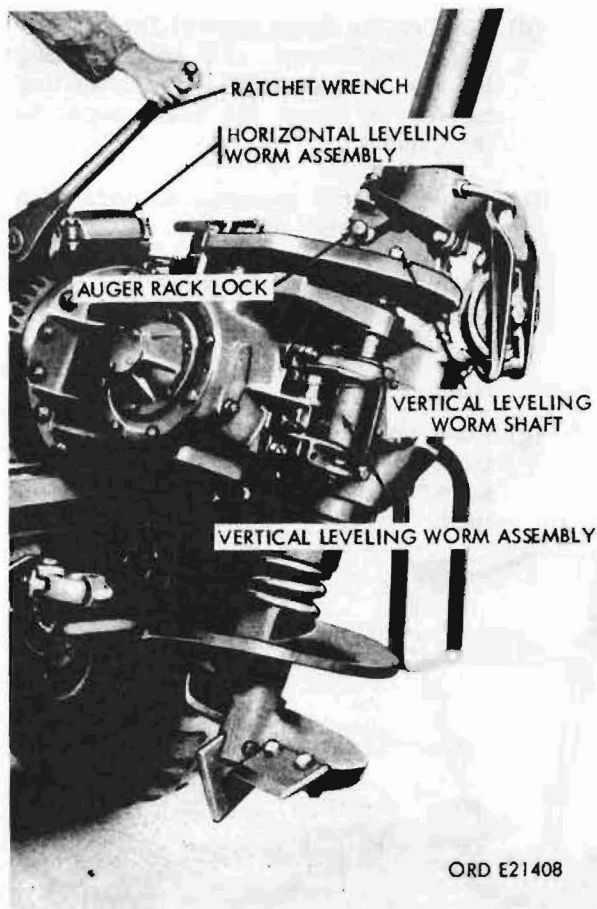

Figure 162. Operating horizontal leveling worm assembly
- (e) Plumb the boring machine, using the horizontal and vertical leveling worm assemblies (fig. 162) while watching the plumb bob (fig. 97) when plumbing for the vertical holes. A ratchet wrench (fig. 162) is provided which fits over the end of the leveling worm shafts. Turn the leveling worm shafts with the wrench to level the boring machine. The horizontal leveling worm has a ratchet pawl to secure the worm shaft in position.